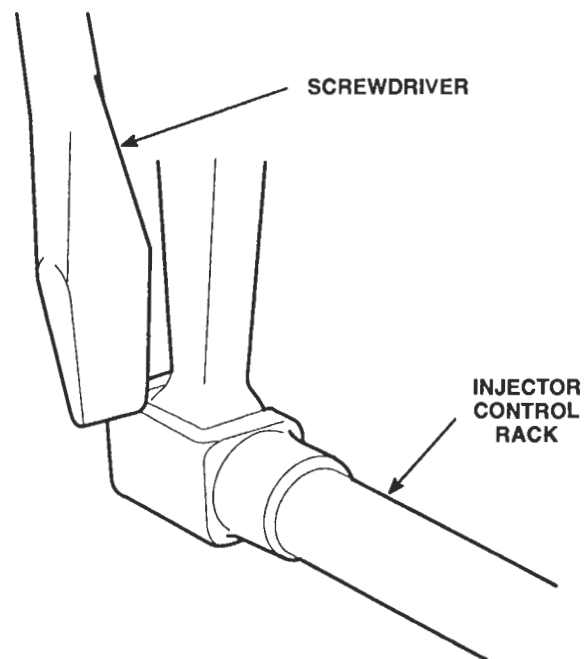

Figure 4. Checking Injector Control Rack "Spring"
6. Hold the speed control lever in the maximum speed position and, using a screwdriver, press downward on the injector control rack. The rack should tilt downward and when the pressure of the screwdriver is released, the control rack should "spring" back upward (Figure 4.)